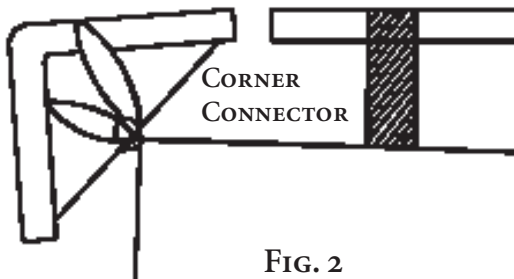

FIG. 2
- Tie outside pole ties (fig. 2).